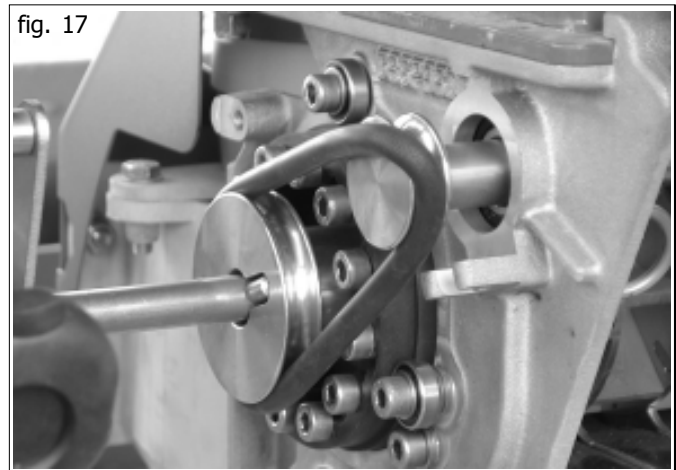

fig. 17
- To disable the agitator, lift the round belt above the edge of the drive pulley and, on the opposite side, rotate the dosing roller in the driving direction. The belt will come off (Fig. 17).